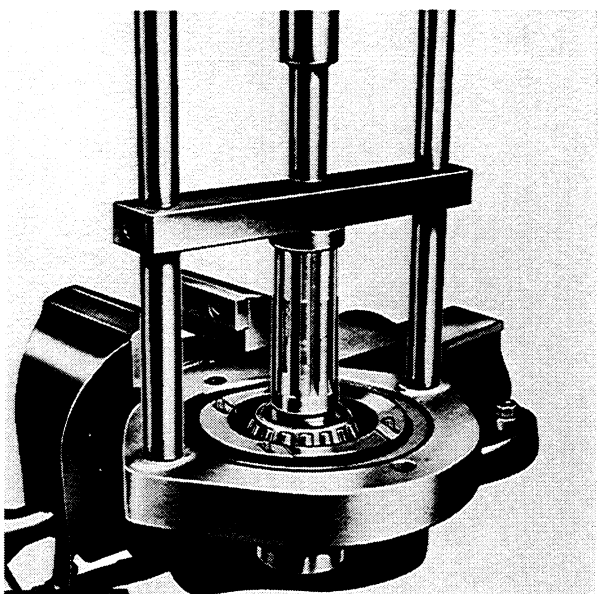
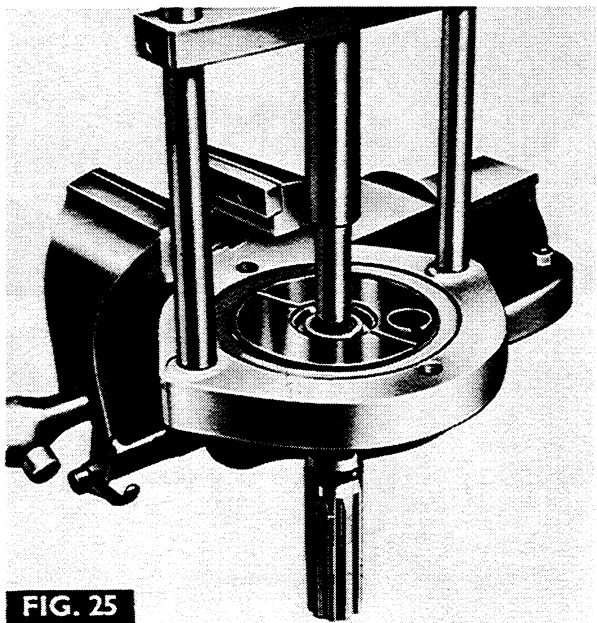

FIG. 24
FIG. 25
3. Fig. 24. Fit the pinion to the MF 200 hand press with adapters MF 200-23 and MF 200-25 as shown, then press off the bearing (17).
4. Remove the snap ring (14) securing the pilot bearing (15) to the pinion.
5. Fig. 25. Fit the pinion to the MF 200 hand press, using adapter MF 200-23 as shown, then press off the pilot bearing (15).